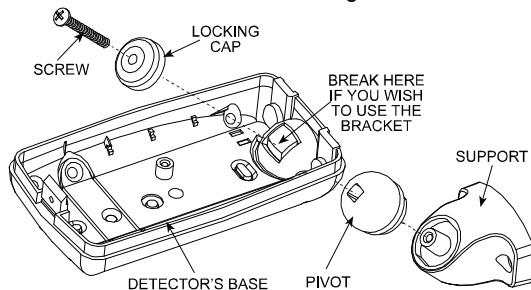

Figure 6. Attaching the Bracket
- Punch out the large knockout in the round bulge at the top part of the base (see Figure 6).
- Assemble the bracket as shown in Figure 6.